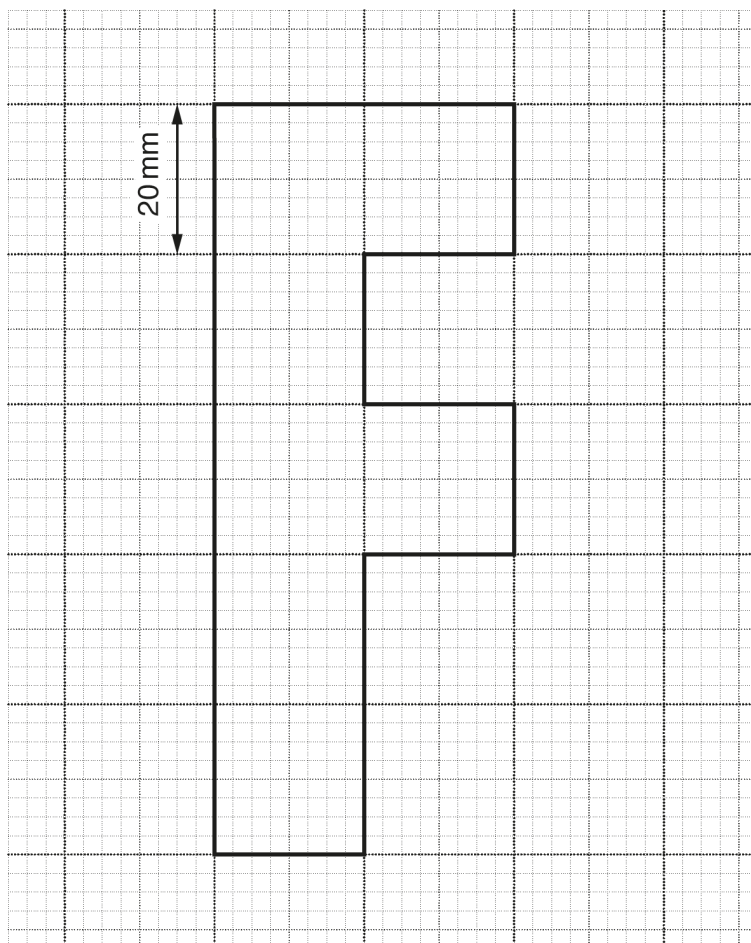

Fig. 2.2
(b) Fig. 2.2 shows a shape that is to be cut from a sheet of acrylic using a laser cutter.
- (ii) Two of the shapes shown in **Fig. 2.2** are to be laser cut in the shortest possible time.